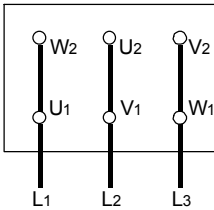

Fig. 9a. Δ - connection
- The mains connection on the tagboard depends on the nominal power of the motor, the power supply and the type of connection. The necessary connection of the bridges in the terminal box is shown in the following (Table 1. and Fig. 9a, 9b, 9c).